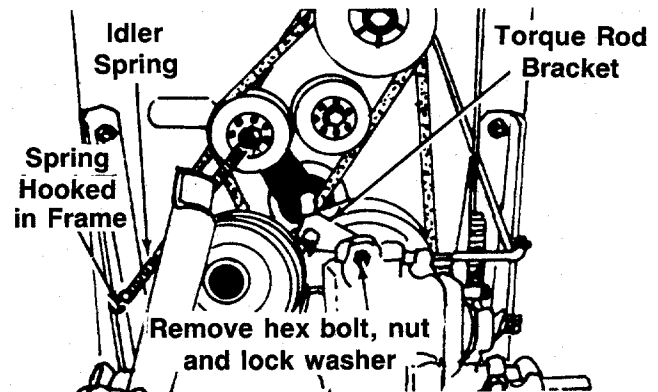

FIGURE 32.
3. Unhook the idler spring from the rider frame. See figure 32.
4. Remove the hex bolt, nut and lock washer at the torque rod bracket and transaxle. See figure 32.